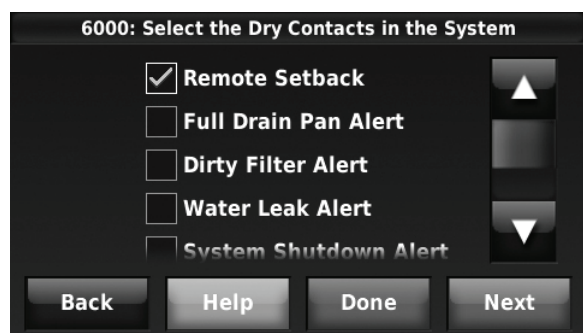

Fig. 305.
1. Select “Remote Setback” as shown in Fig. 305.